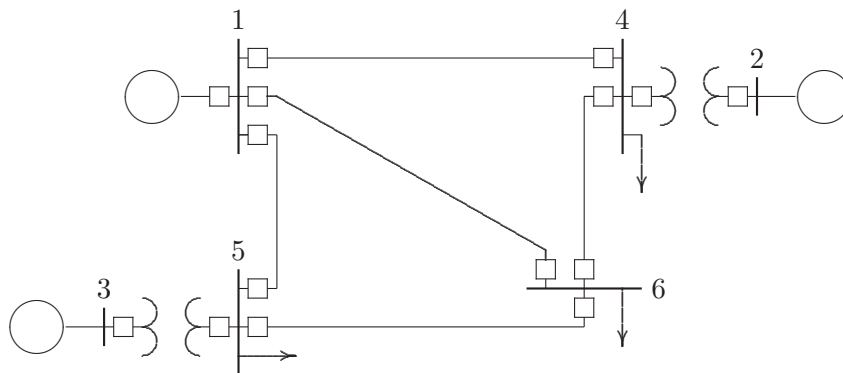

FIGURE 79
9.16. The 6-bus power system network of an electric utility company is shown in Figure 79. The line and transformer data containing the series resistance and reac-